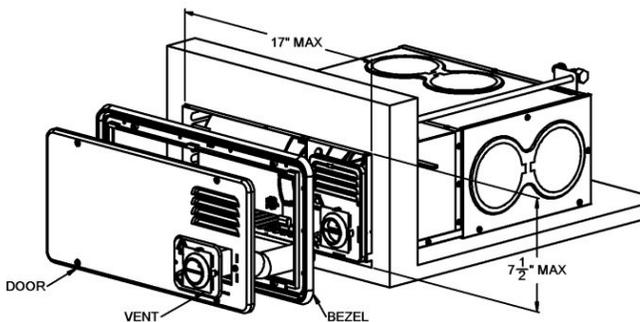

Figure 3
- Locate and cut hole location in side wall per figure 3.